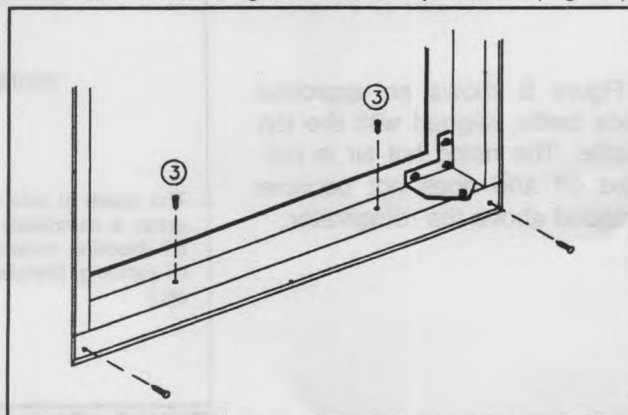

Figure 10
2. Once the lower flange is slipped around the hinge, the part will swing into place as shown in Figure 10.
3. Secure the flange with screws provided. (Fig. 10)